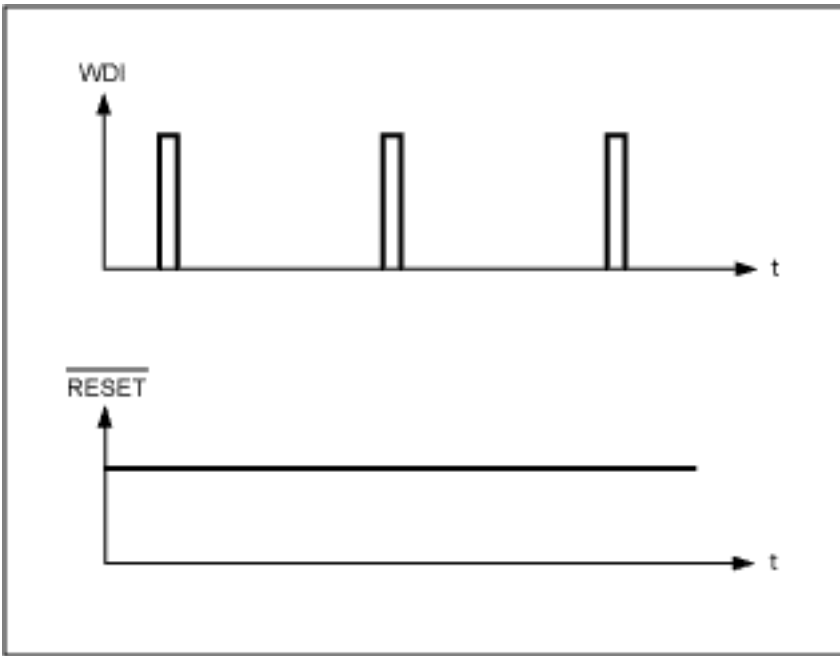
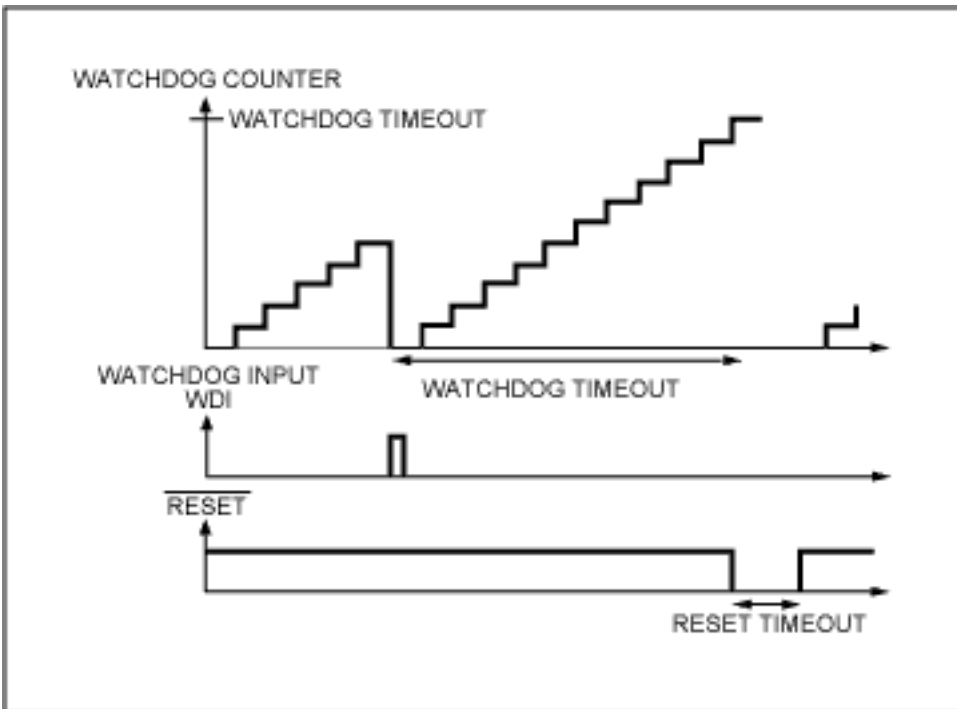

Figure 3. If the WDI pin is always toggled within the watchdog timeout, no reset is generated.
Figure 4. As soon as the watchdog counter reaches the timeout value, a reset is generated.
**Figure 3** shows the watchdog and reset signal for normal operation (watchdog is cleared within timeout period). In **Figure 4**, a reset is generated after the watchdog counter reaches the timeout. Industry-standard watchdog circuits have timeouts in the 100ms to 2s range, although there are adjustable and customized watchdogs covering a much wider range (30ms to minutes). If the execution time of the main loop is too long for the watchdog, the designer can implement multiple watchdog-toggle commands within different sections of the main loop or use a device with longer timeout.